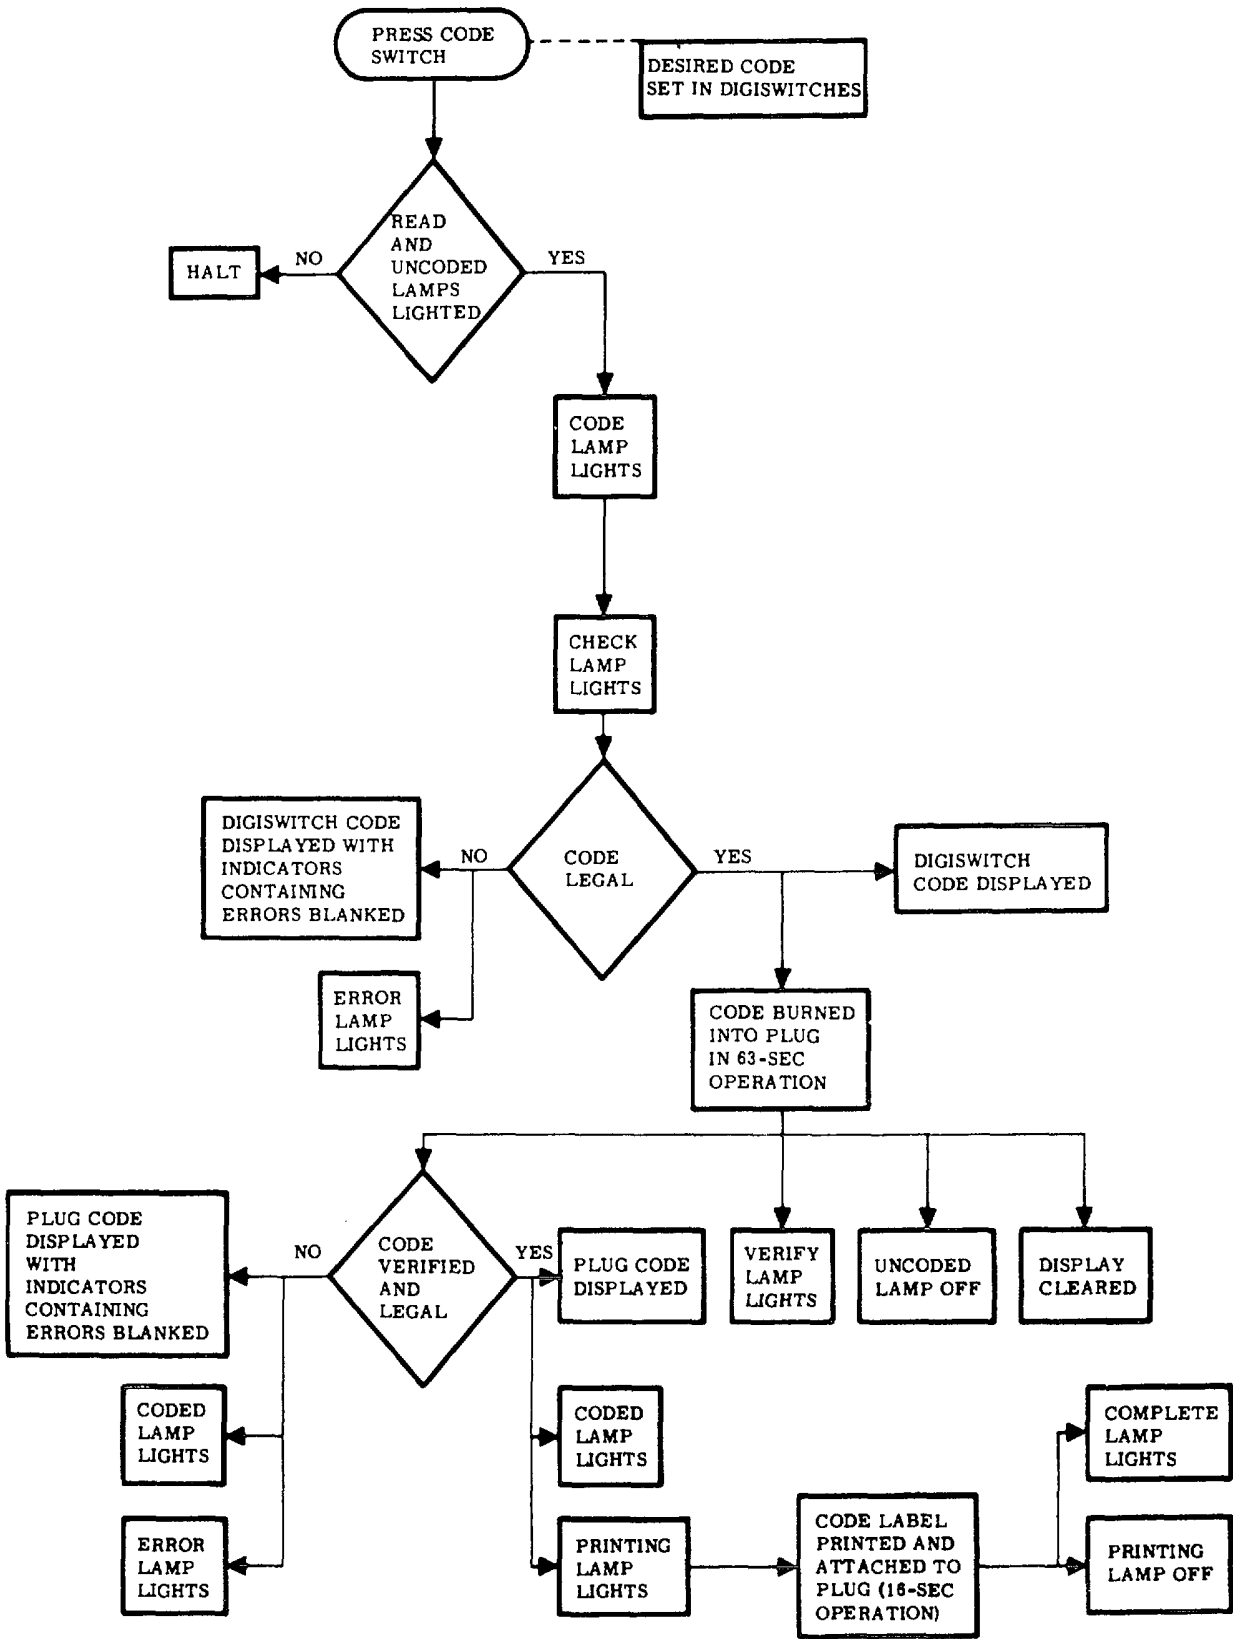

Figure 1-3. PT1561 Programmer Code Operation, Flow Chart
**1-24.** Figure 1-3 is a flow chart for the coding operation of the PT1561 Programmer. Refer to Figure 1-3 while reading the text describing this operation.